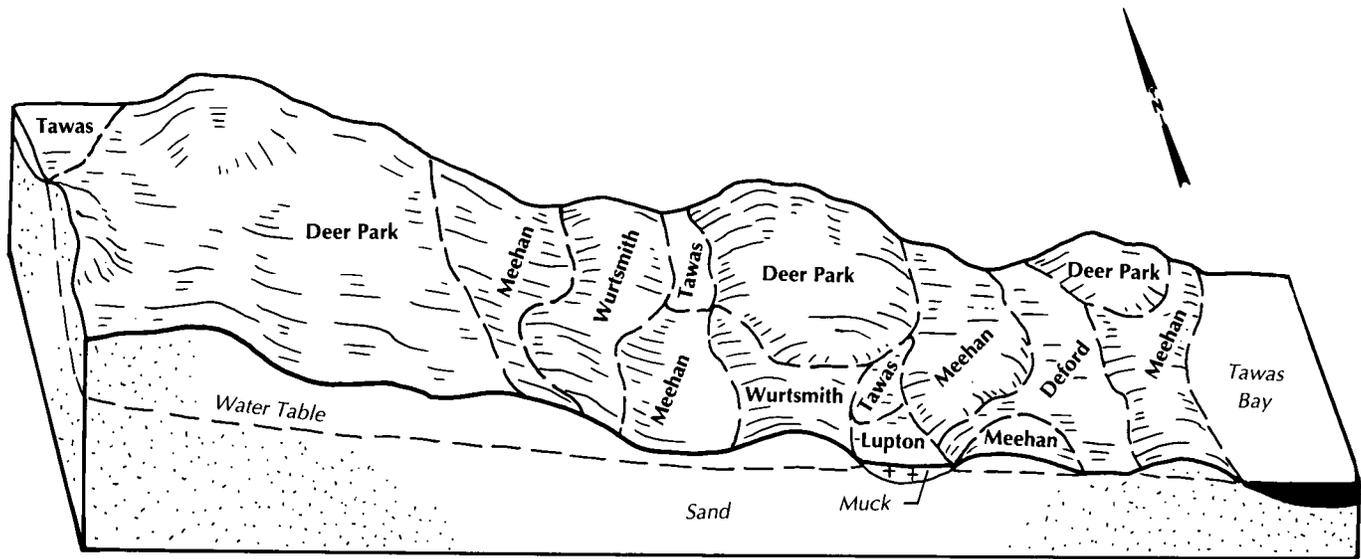

Figure 8.—Typical pattern of soils and landscape in the Deer Park-Meehan-Wurtsmith association.
*Extent of the soils in the association (fig. 8):*